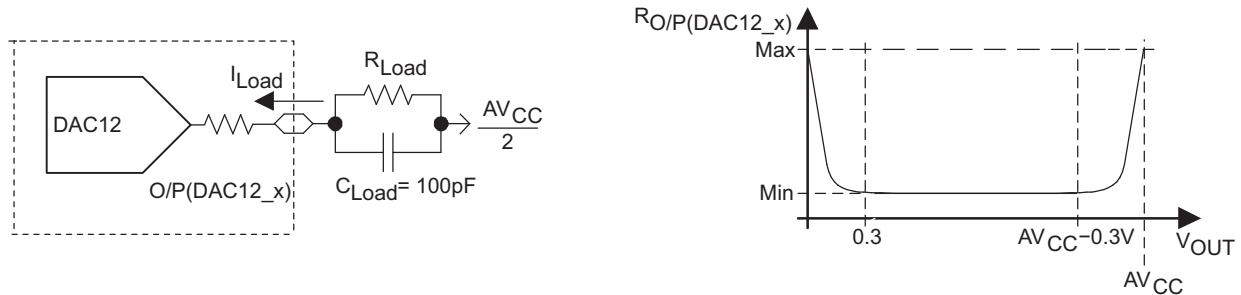

**Figure 44. DAC12\_x Output Resistance Tests**
| V O Output voltage range (1) (see Figure 44) | No Load, V eREF+ = AV CC , DAC12_xDAT = 0h, DAC12IR = 1, DAC12AMPx = 7                     | 2.2 V, 3 V      | 0                       |     | 0.005            | V    |
| R O/P(DAC12) Output resistance (see Figure 44)          | R Load = 3 kΩ, V O/P(DAC12) = 0 V, DAC12AMPx = 7, DAC12_xDAT = 0h                          | 2.2 V, 3 V      |                         | 150 | 250              | Ω    |